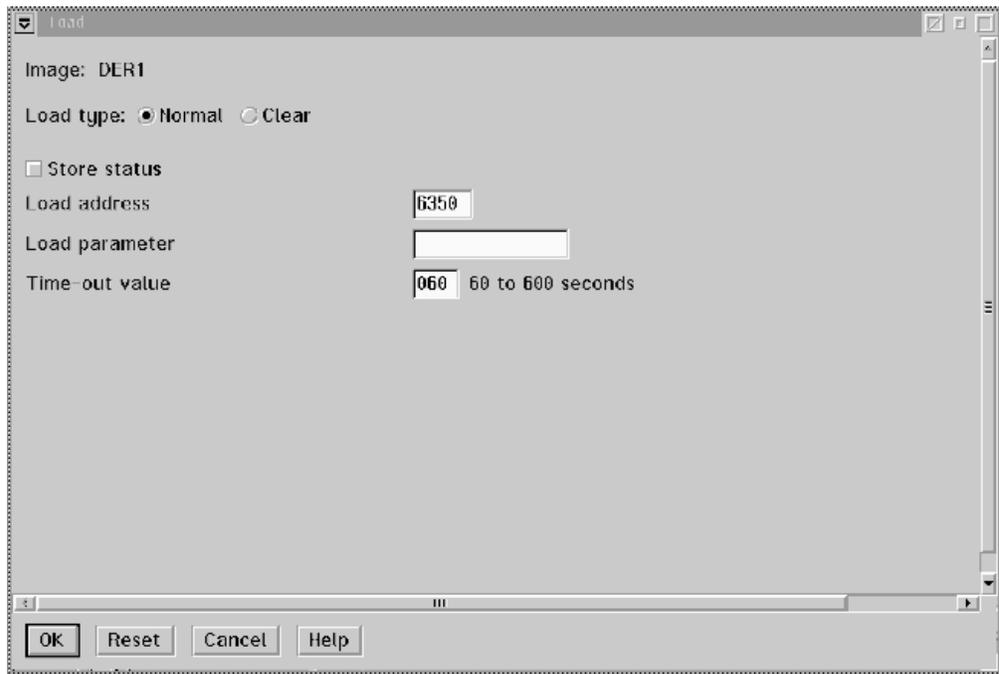

Figure 59. Load panel for booting from DASD or tape
- a. Select **Load type** “Normal” (see Figure 59).